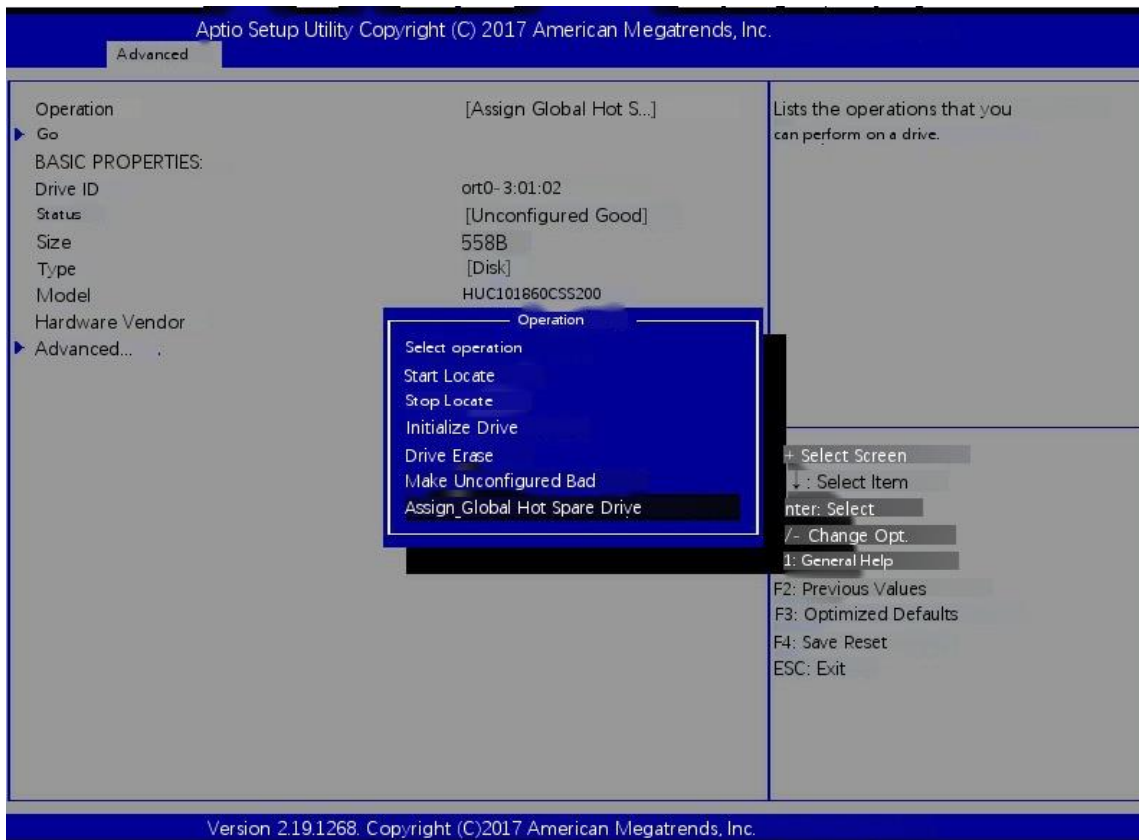

Figure 6-21
- c) Enter the interface shown in Figure 6-21, select operation, press enter, then select assign assigned hot spare drive and press enter.